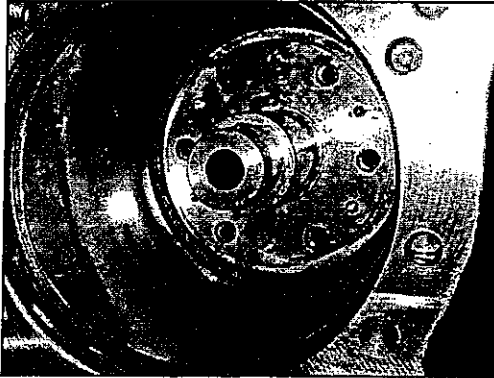
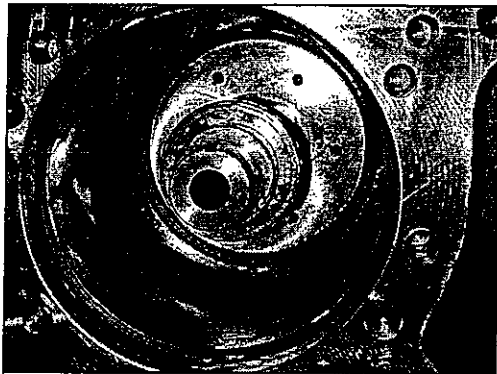

Fig. 3-39
Fig. 3-40
- (24) Install Seal Ring (D41) (Fig. 3-40) and Seal Ring Retainer (D42) (Fig. 3-39) to Inlet Casing (B01).